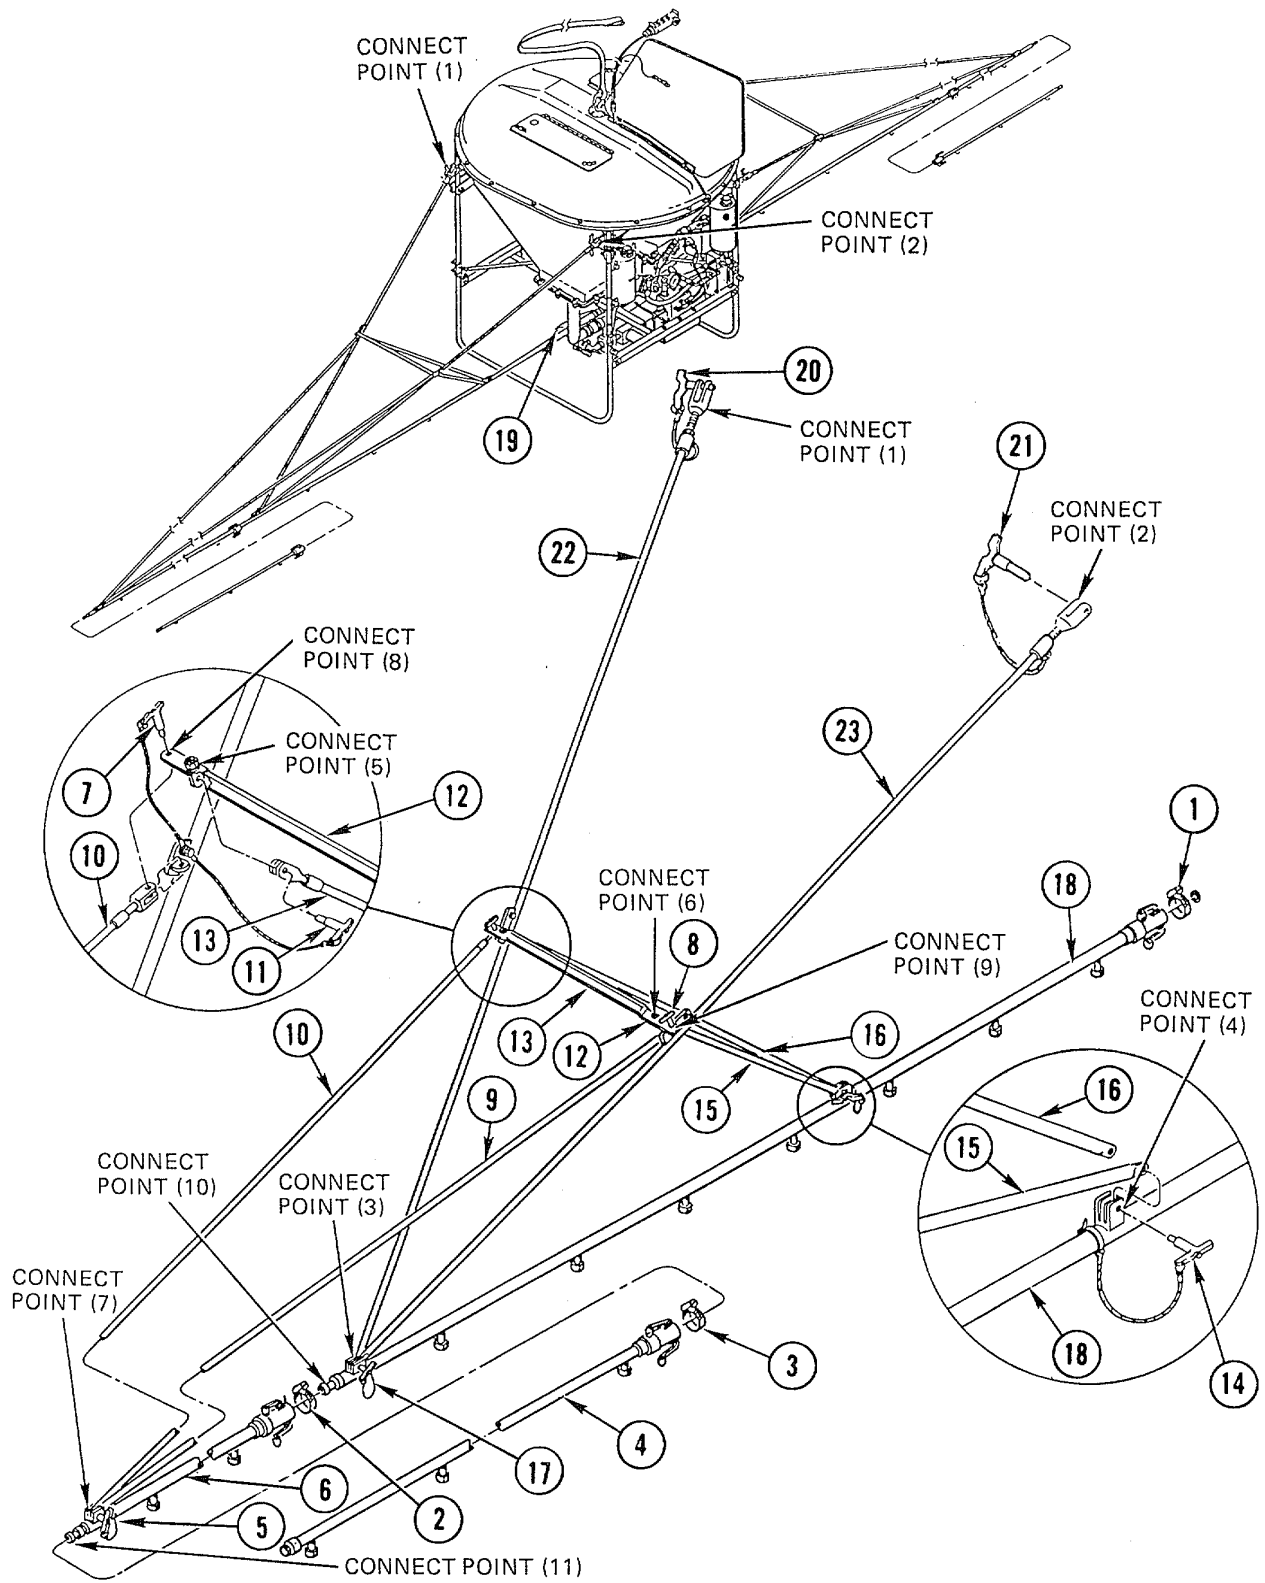

Figure 2-15. Disassembly of LV System
- (1) Remove clamps (1, 2, and 3, figure 2-15) from boom. Pull back Kamlock ears and remove boom extension (4) from Connect Point 11.